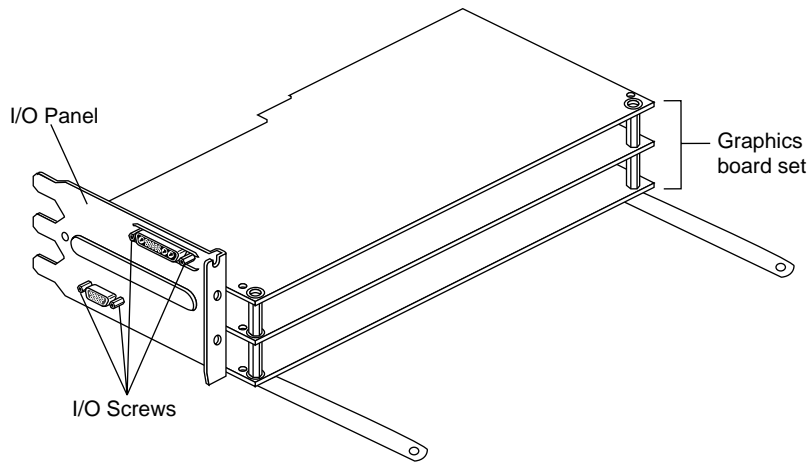

Figure 5-33 Removing I/O Panel Screws
- Slide the I/O panel off the connectors. See Figure 5-33.